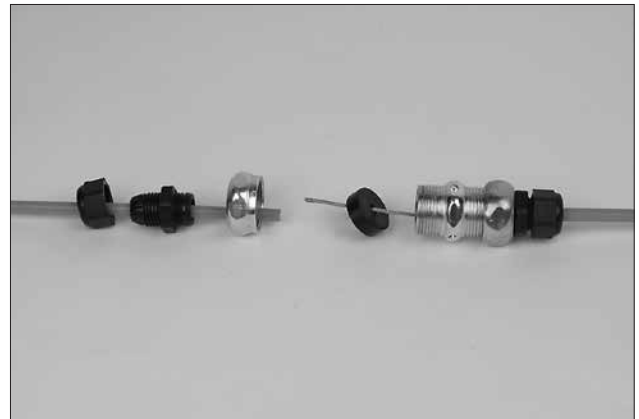

FIGURE 4-74
7. Install strain relief nut, strain relief, and compression union nut on remaining section of flexible conduit and install flexible conduit insert on wire rope. See Figure 4-74.